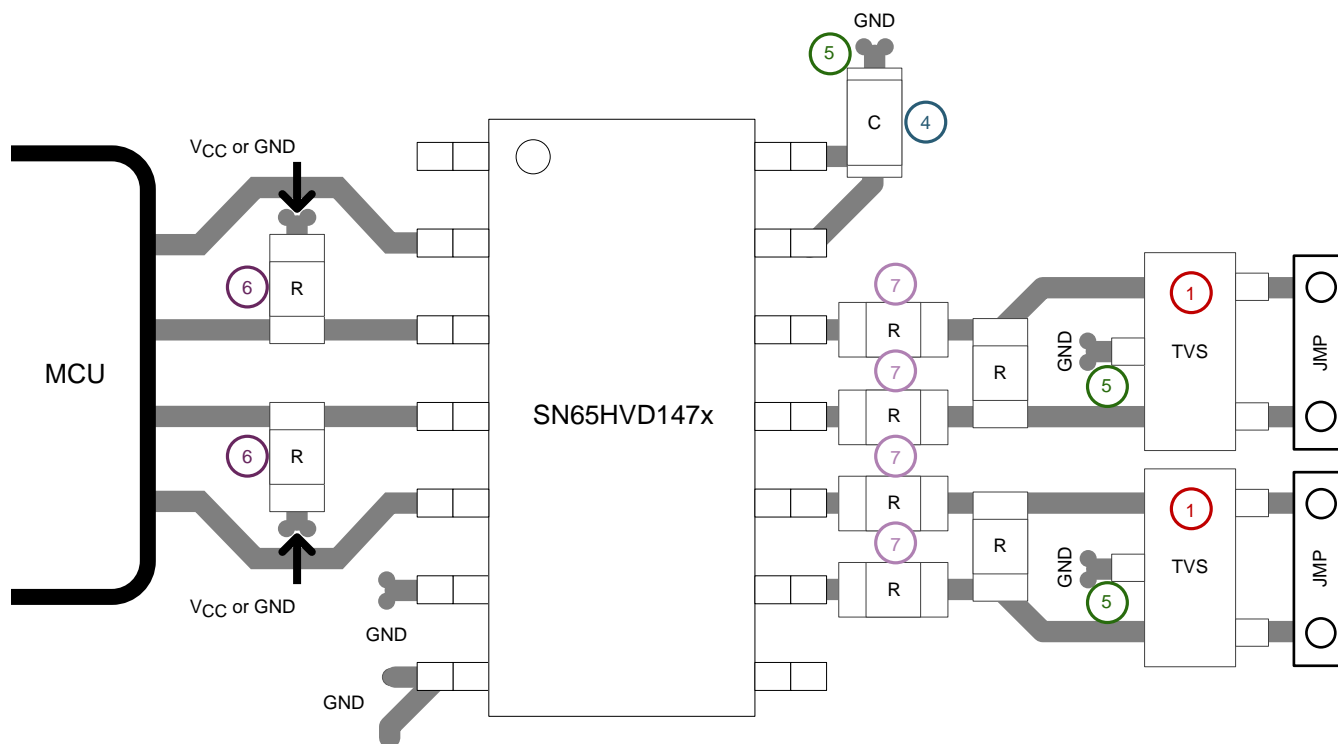

Figure 41. SN65HVD147x Layout Example
For successful PCB design, begin with the design of the protection circuit (see Figure 41).
4. Apply 100-nF to 220-nF bypass capacitors as close as possible to the V_{CC} -pins of transceiver, UART, controller ICs on the board (see Figure 41).
5. Use at least two vias for V_{CC} and ground connections of bypass capacitors and protection devices to minimize effective via-inductance (see Figure 41).
6. Use 1-k Ω to 10-k Ω pullup and pulldown resistors for enable lines to limit noise currents in these lines during transient events (see Figure 41).
7. Insert pulse-proof resistors into the A and B bus lines if the TVS clamping voltage is higher than the specified maximum voltage of the transceiver bus pins. These resistors limit the residual clamping current into the transceiver and prevent it from latching up (see Figure 41).